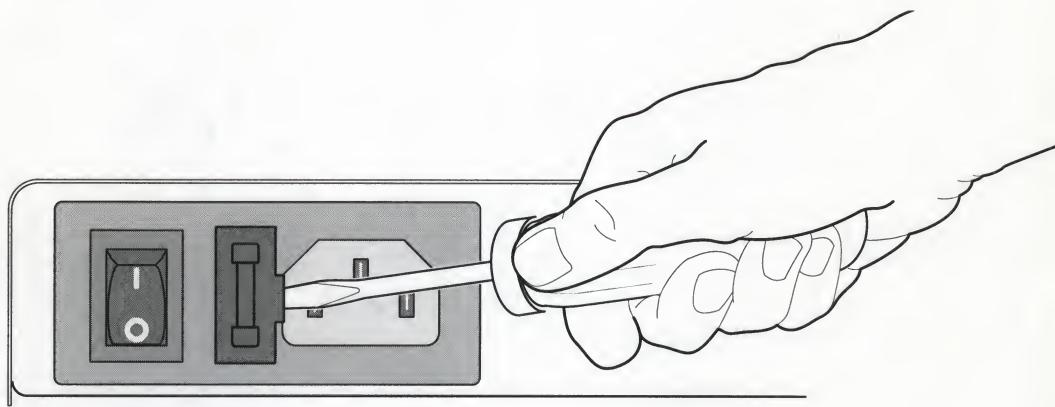

Figure 3-5 PortMaster Office Router—Changing the Fuse
- 3. Insert a 3/16" flat-head screwdriver between the fuse door and the chassis and gently pry the door open, as shown in Figure 3-5.**